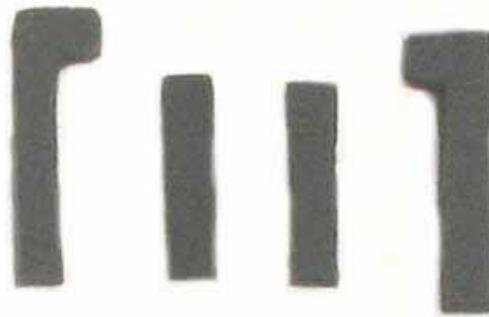

Figure 9-39: GUI Dust Gaskets
5. Separate the GUI dust gasket parts (Figure 9-39).